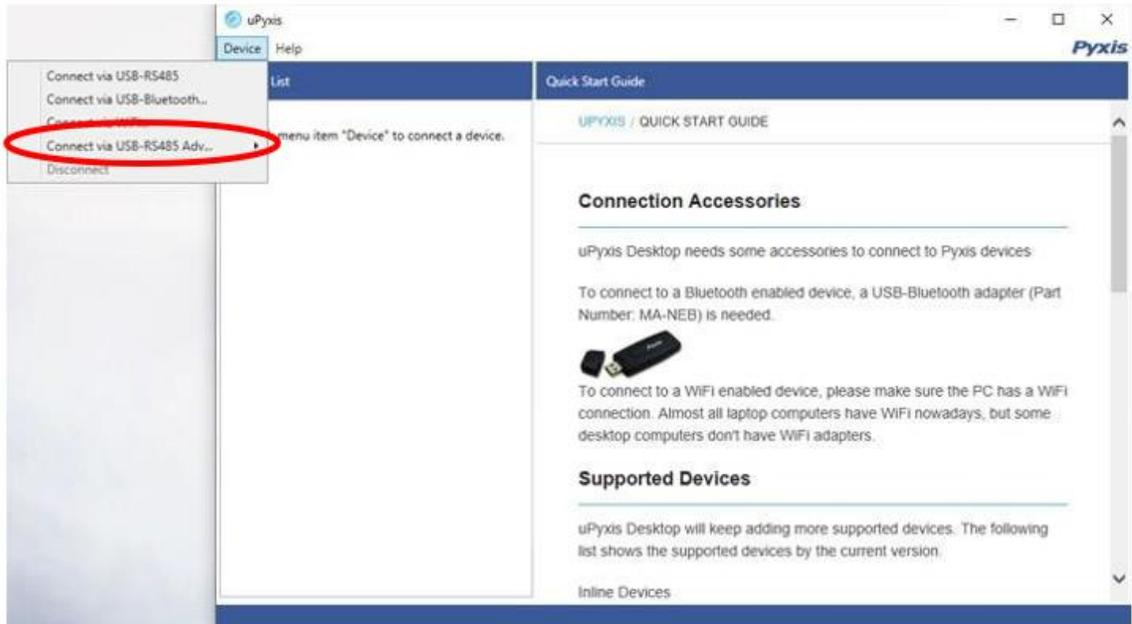

Figure 11. Connection Options
6. Select Connect via USB-RS485 (Figure 11).